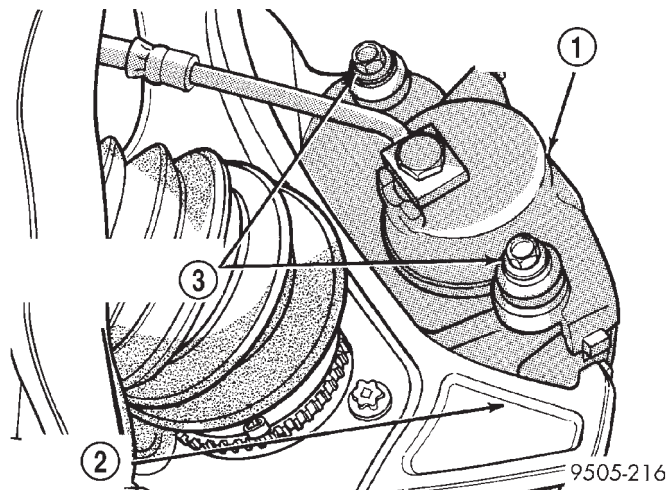

Fig. 27 Front Disc Brake Caliper Mounting
(3) Loosen hub nut with the brakes applied. **The hub and driveshaft are splined together through the knuckle (bearing) and retained by the hub nut.**
(4) Remove front disc brake caliper to steering knuckle guide pin attaching bolts (Fig. 27).